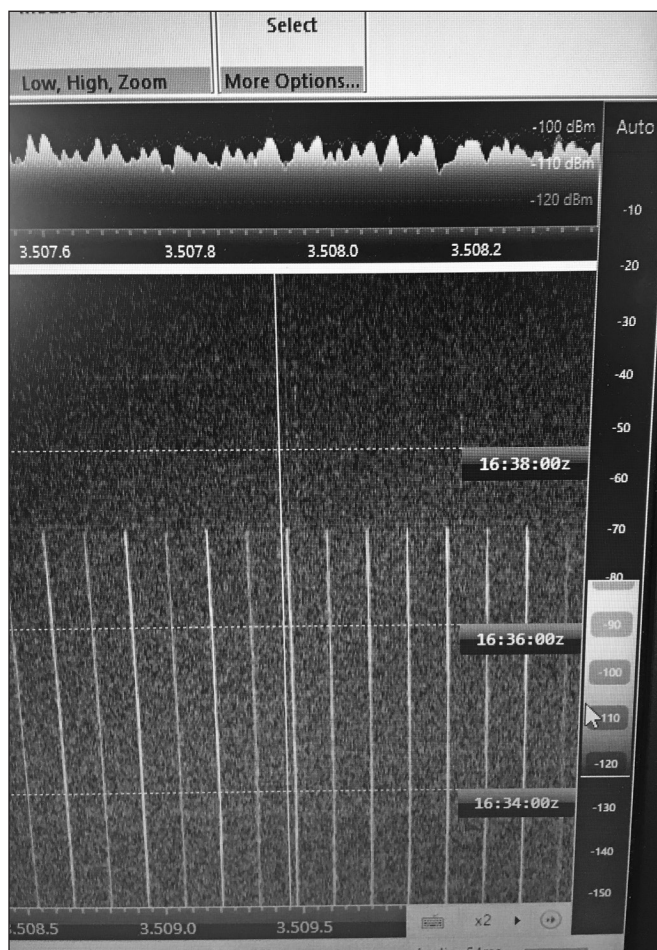

Figure 27.19 — Photo showing 2 kHz span with spikes from refrigerator's microprocessor, cured with a choke made from two snap-on Type #31 cores on ac power cord.
- Adjustable visible bandwidth with the ability to zoom in to a very narrow span of 1 or 2 kHz (helpful for identifying microprocessors) (see **Figure 27.19**)